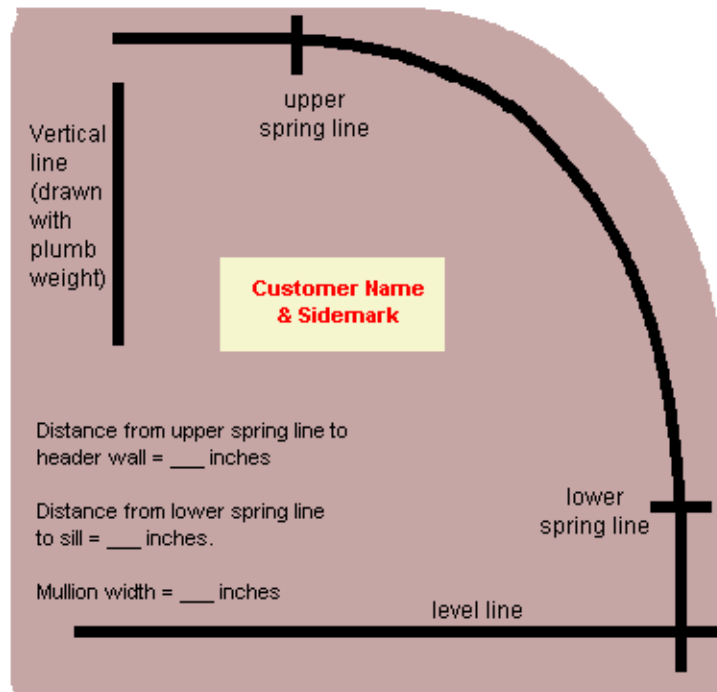

Figure 3 Trackstar Template
- 10 On the template itself, write your company's name and the job sidemark. When you are finished, it should look something like Figure 3.